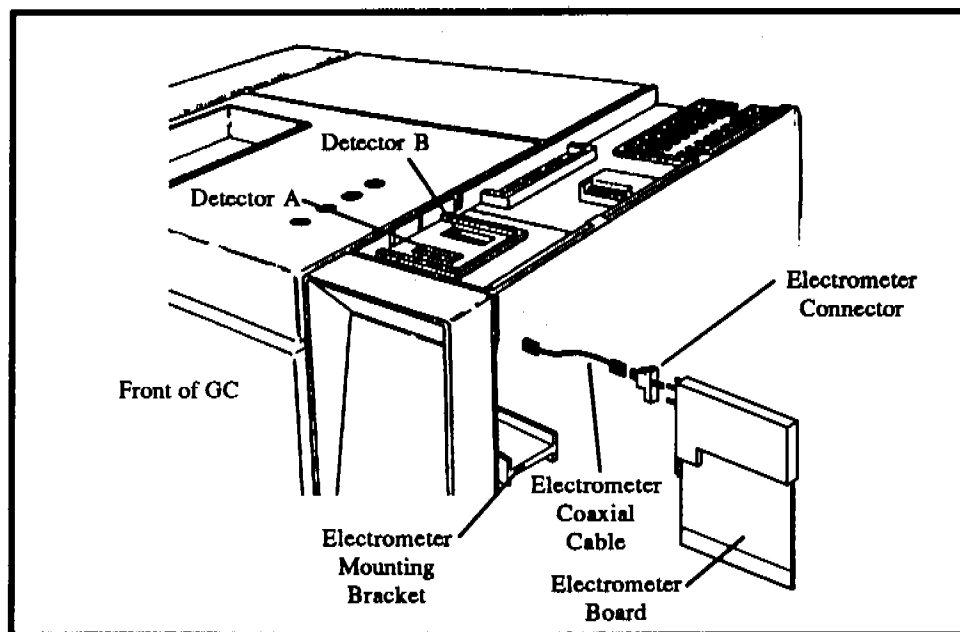

Fig. 3.8 Installation of Electrometer Board
- Attach the electrometer connector (OI Analytical #193797) to the HP electrometer board (OI Analytical #187344), referring to Fig. 3.8. Use the three nuts and washers provided with the electrometer board.